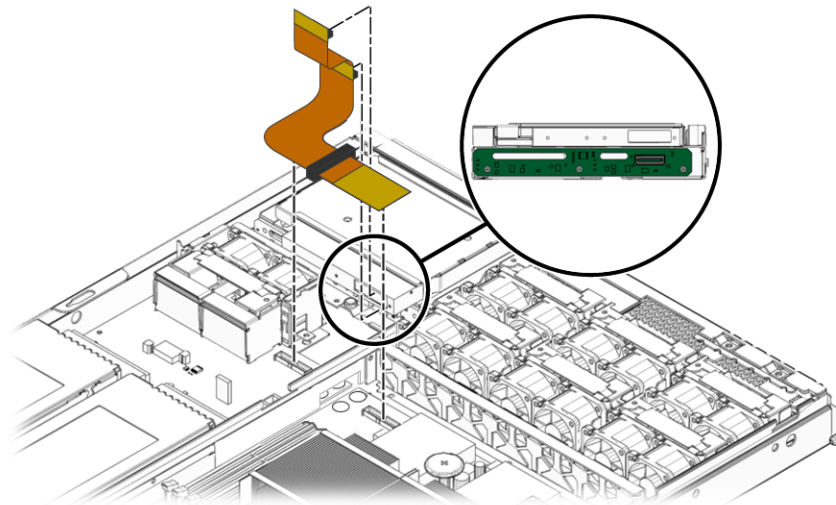

FIGURE 3-33 Removing the Hard Drive Backplane – Sun Fire V245
10. (Sun Fire V245) Remove the three screws that secure the hard drive backplane to the hard drive card cage assembly (FIGURE 3-33).